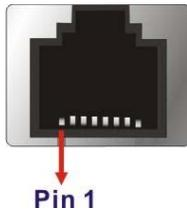

Figure 3-23: RJ-45 Serial Port
- CN Pinouts:** See Table 3-5 and Figure 3-23